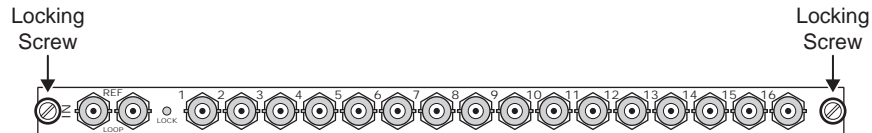

Figure 4.9 Locking Screws on Rear Frame Board
3. Unscrew the **Locking Screws** located at either end of the rear panel of the board you want to remove (**Figure 4.9**).